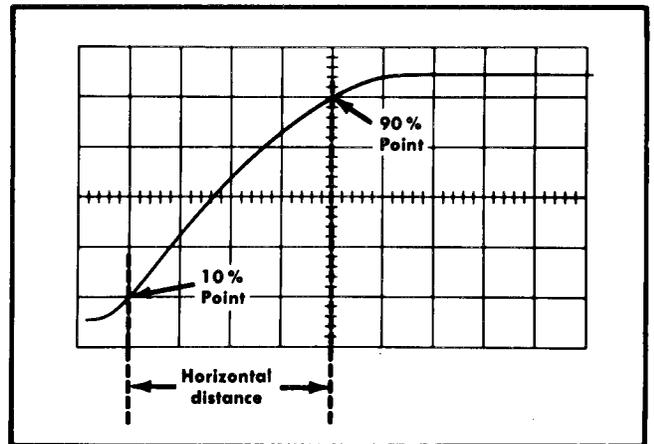

Fig. 2-18. Measuring risetime.
example, with a five-division display as shown in Fig. 2-18, the 10% point is 0.5 division up from the start of the rising portion.
**Example.** Assume that the horizontal distance between the 10% and 90% points is four divisions (see Fig. 2-18) and the TIME/DIV switch is set to 1  $\mu$ s with the MAG switch set to X10.